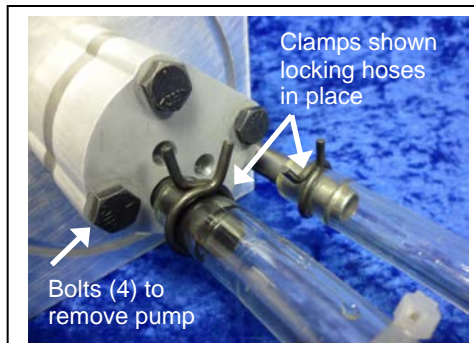

Figure 16 Pump with tubes & clamps
- 10) Use pliers to squeeze the spring hose clamp and move it toward the middle of the hose on the pump. **(See Figure 16 & 17)** Then pull the hose off the black fitting on the end of the pump body.